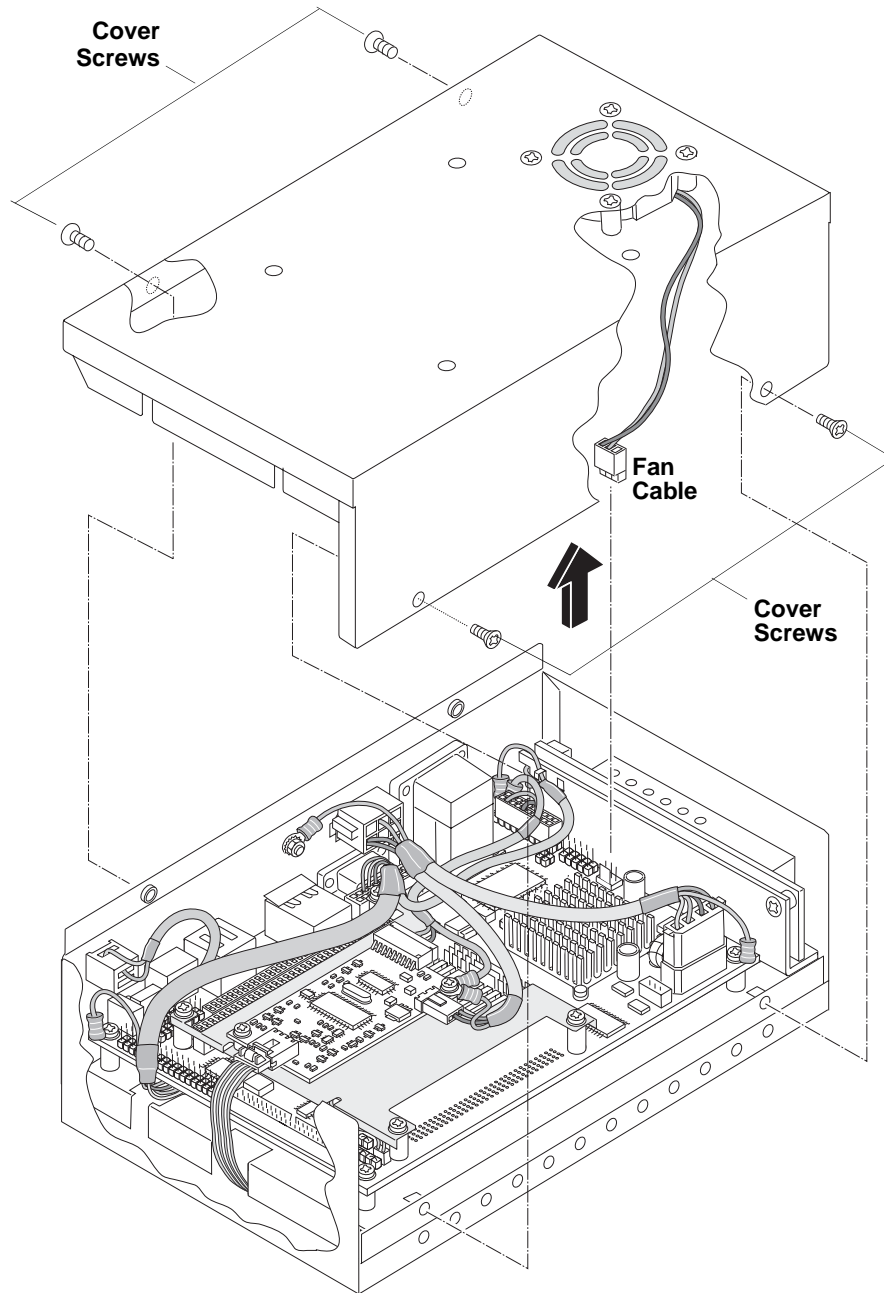

Figure 2-1. Exploded View of ReadyPanel Assembly with Cover and Screws
Power LED	This green power-on indicator, shown in Figure 2-1 on page 10 , resides on the ReadyBoard and glows when power is turned on and goes dark when the ReadyPanel power is turned off.
Storage Activity LED	This yellow activity indicator, shown in Figure 2-1 on page 10 , resides on the ReadyBoard and flickers when IDE or compact flash card activity occurs in the ReadyPanel.
4. Remove the cover from the ReadyPanel enclosure. See Figure 2-1.